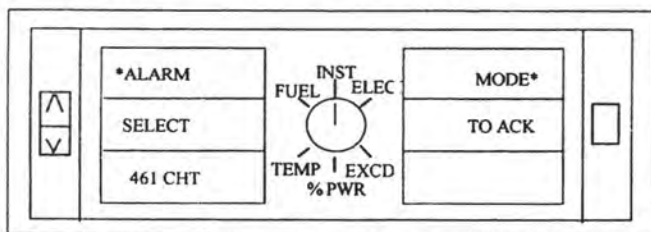

Figure 2
Below the DDMP are two vertical stacks of analog instruments which display (going top to bottom/left to right), manifold pressure (MAP), Propeller RPM (RPM), turbine inlet temperature (TIT), fuel flow (FF), oil temperature (OT), oil pressure (OP), vacuum system pressure (VAC), cylinder head temperature (CHT), and left/right fuel quantity (QTY). Each analog indicator displays its respective engine parameter and provides data for the DDMP. Analog instruments consist of a 2 inch nonreflective glass face/dial, controllable backlighting, and an annunciator light capable of showing steady green or steady/flashing red. A steady green annunciator indicates that analog parameter is being displayed digitally in the DDMP. A steady red annunciator is illuminated when an engine parameter limit has been exceeded. Any exceedence condition will override the current DDMP display and show the parameter in exceedence, the exceedence value, illuminate a red annunciator light, (see Figure 2) and activate an audible tone. The exceedence audible tone and DDMP exceedence display will continue until the select switch is depressed. The red annunciator light will remain illuminated until the parameter is no longer in exceedence. If multiple exceedences occur, the operator must acknowledge each exceedence individually to mute the audible alarm. A steady red annunciator light in the fuel quantity gauge indicates 5 gallons or less of usable fuel remaining. Brightness of the analog instrument backlighting and DDMP display can be adjusted using the cockpit panel lighting control. Analog instrument annunciator light intensity is controlled using the panel annunciator Day/Night dimmer switch.